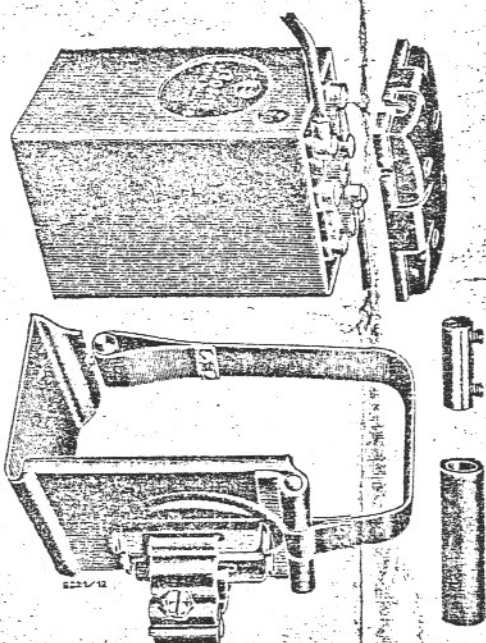

Fig. 7. Battery BGD 312 with battery carrier and cable connector
#### 1) Battery BGD 312 (Fig. 7)
The positive cable (30) is connected by a socket (Fig. 7) with the cable running from terminal 51 on the dynamo. This socket is protected against earthing by a rubber sleeve.